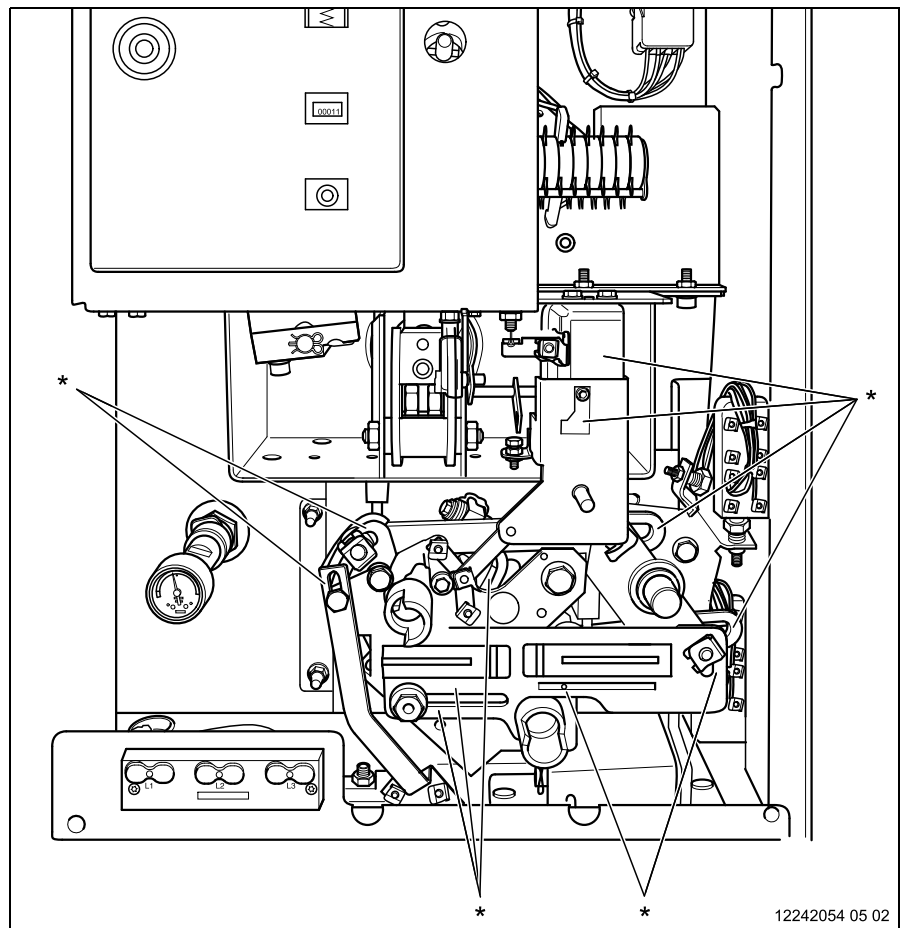

Fig. 66
- Inspect the condition of the lubrication at the bearing points, sliding surfaces, etc. (see \* in Fig. 66).